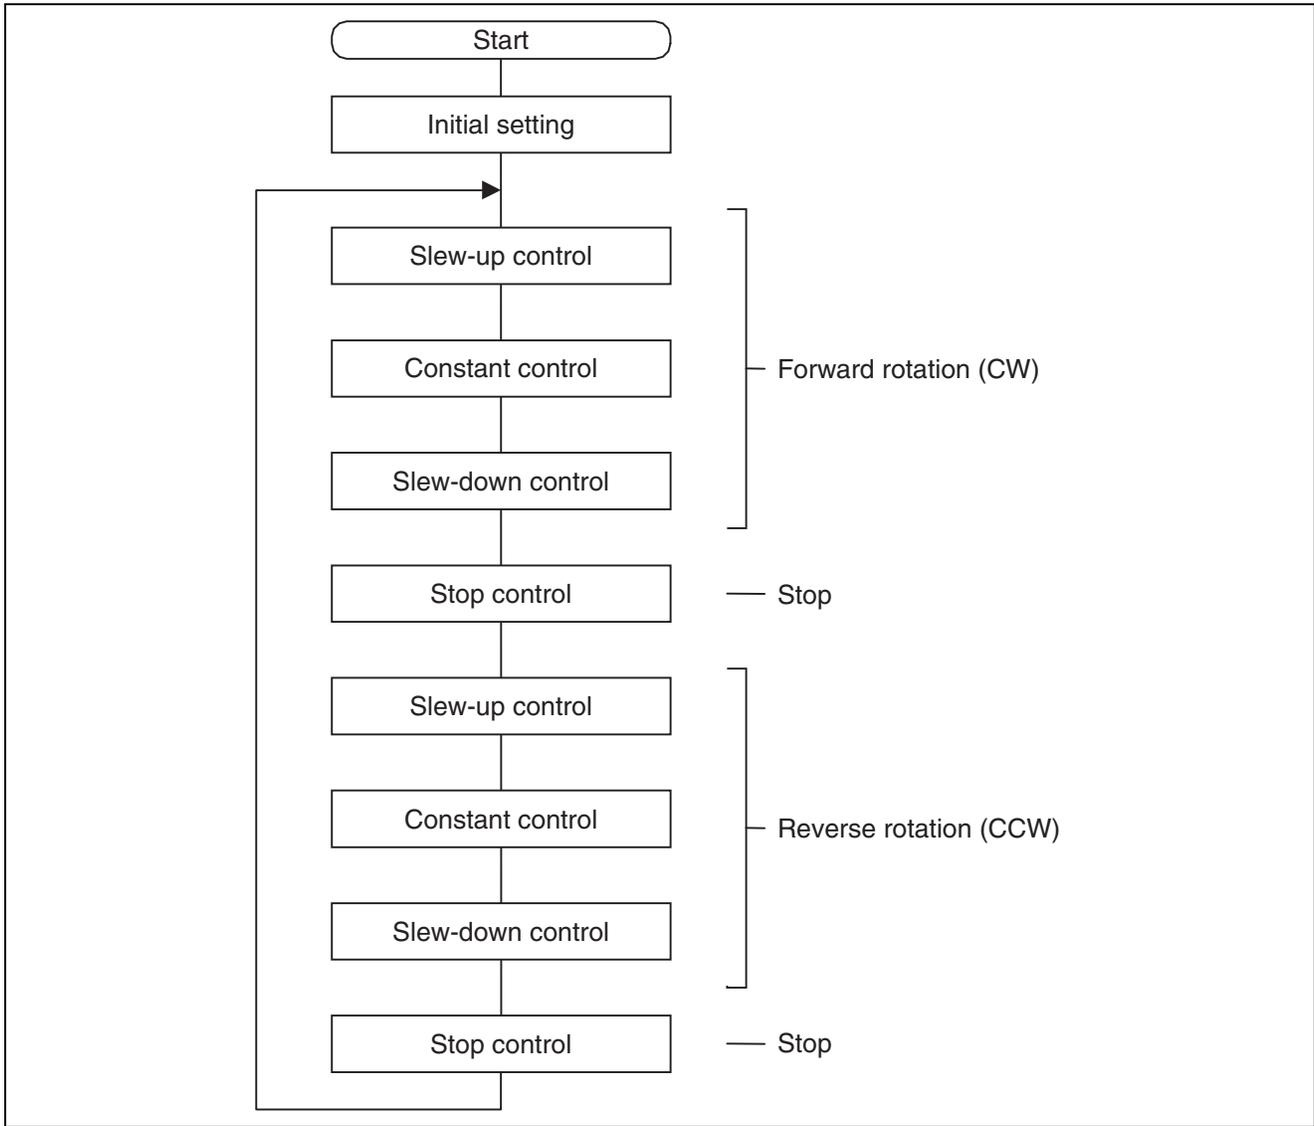

Figure 7 Flowchart of Stepper Motor Control
3.3 Figure 7 is a flowchart illustrating stepper motor control.